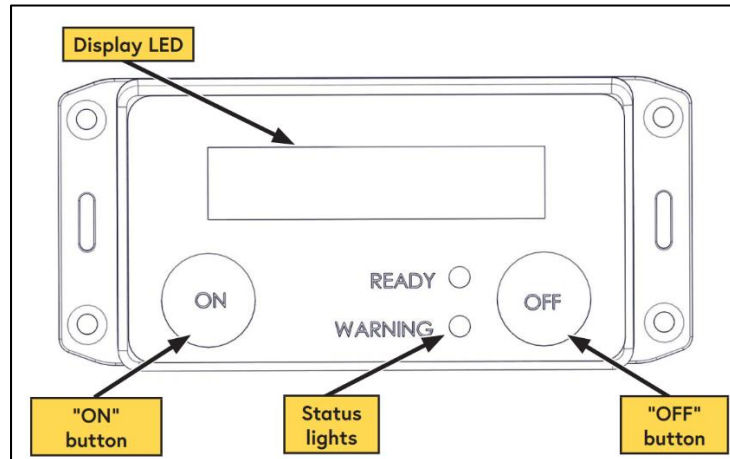

Figure 1
- Press and hold the "OFF" button (Figure 1) on the Control Box until "DIAGNOSTICS" is displayed.